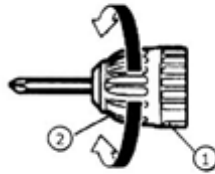

Fig. 4
Hold the ring (1) and loosen the sleeve (2) by turning it toward the left (in the counter-clockwise direction as viewed from the front) open the chuck (see Fig.4) After inserting a driver bit into the keyless drill chuck, firmly grasp the ring (1) and tighten the sleeve (2) by turning it toward the right (in the clockwise direction as viewed from the front). To dismounting the bit/drill bit open the chuck, remove the bit/drill and tighten the chuck.